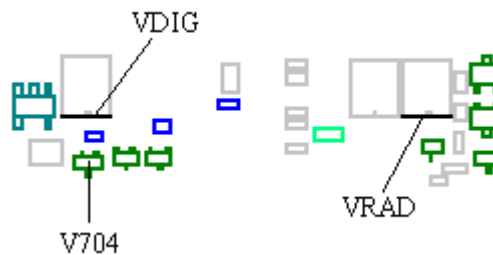
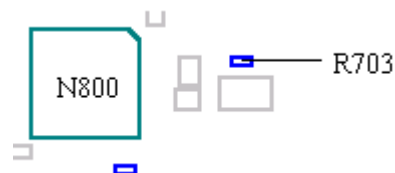

Fig. 6.2
Fig. 6.3
Give the board power and start it with the On/Off key. Check the voltages VDIG (~3.2V), VRAD (~3.8V, fig. 6.2) and the resistance in R703 (class A, ~0 ohms, fig. 6.3).
* If that doesn't help, replace V704 (class A, fig. 6.2).